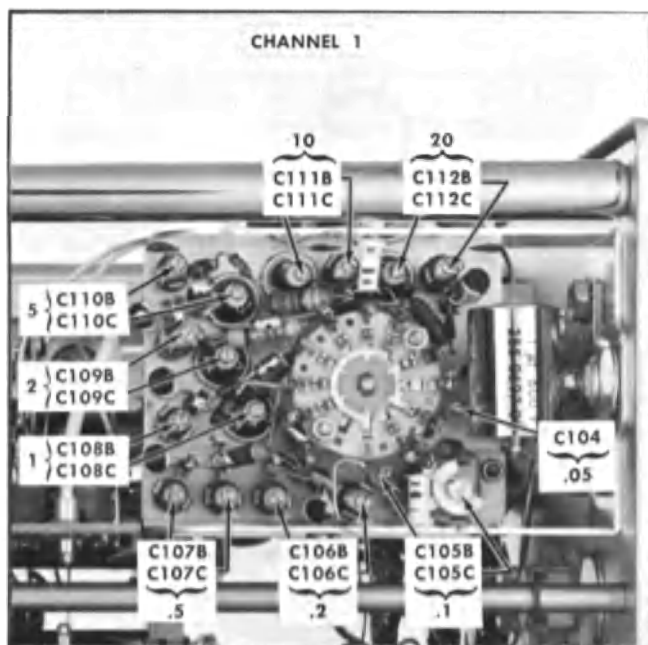

Fig. 7-27. Location of Channel 1 input shunt capacitance and attenuator adjustments associated with the VOLTS/CM switch position.
h. ADJUST—Using Table 7-2 as a guide adjust Channel 1 input capacitance and frequency compensation capacitors (see Fig. 7-27) for optimum flat top and square corner (see Figs. 7-25A and 7-26A). Maintain a 4 cm display (except on the 20 VOLTS/CM switch setting where approximately 3 cm is the maximum obtainable amplitude). Use the calibration accessories where indicated in Table 7-2.